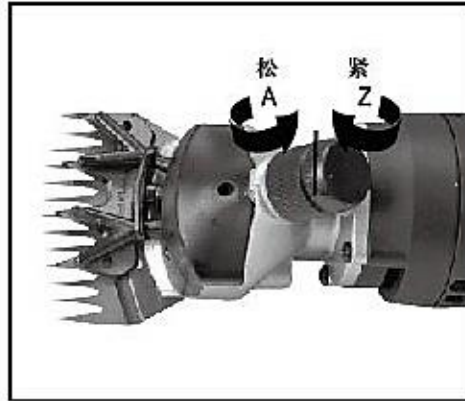

Fig. 2 (Adjusting Nut)
(Refer to fig 2 above)
- 1.2 Adjust the tightness of blades by rotating the adjusting nut clockwise (see Fig. 2) until a resistance is felt. Rotating the adjusting nut anti-clockwise will loosen the blades (see Fig. 2).
5. Clean dirt on the blades. After the completion of one sheep shearing, rotate the adjusting nut anti-clockwise (see Fig. 2) until blades can be removed. When the blades are removed, clean dirt built up on the lower blade as well as dirt buildups inside the upper blade. In doing so, these two blades can closely fit.